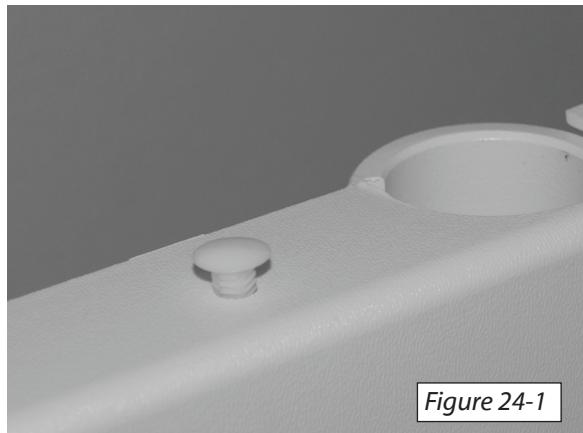

Figure 24-1
4. Position the face plate over the seat support so that the round cuts at the top surround the rooster and the other post hole. Secure it to the support with the two christmas tree plugs. [Figure 24-1]